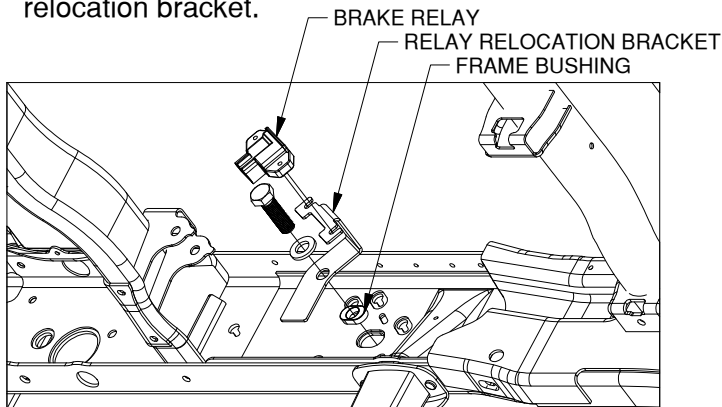
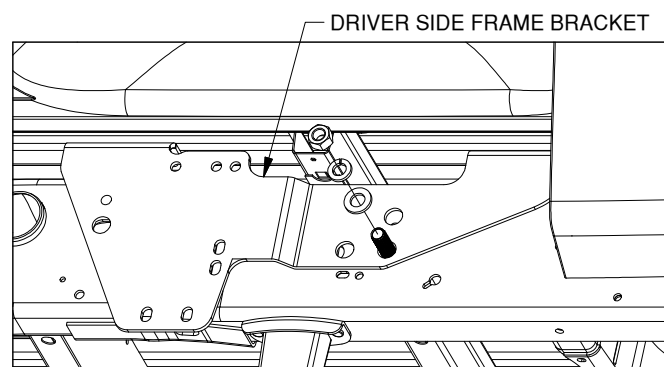

Figure B1: View from inside of driver side frame.
Figure B2: View from outside of driver side frame.
- 1. Install the 3/4" cap screw.** Some truck models will come equipped with a brake relay in the location of the driver side frame bracket installation. A relocation bracket has been provided to move the relay out of the way of the installation if needed. Start the installation by locating the driver side frame bracket, a 3/4" x 2 1/2" cap screw, two 3/4" Flat washers, a frame bushing, 3/4" split lockwasher, 3/4" finish nut, and the relocation bracket (if needed). Detach the Brake relay (if present) from the inside of the driver side frame. Pass the 3/4" x 2 1/2" cap screw and a 3/4" flat washer through the relocation bracket (if needed) and through the frame, see figure B1. Place a frame spacer over the 3/4" cap screw and into the oval slot in the frame. Install the driver side frame bracket over the 3/4" cap screw on the outside of the frame and attach with a 3/4" flat washer, 3/4" split lockwasher, and a 3/4" finish nut, see figure B2. Do not tighten at this time. If the brake relay was present attach it to the relay relocation bracket.